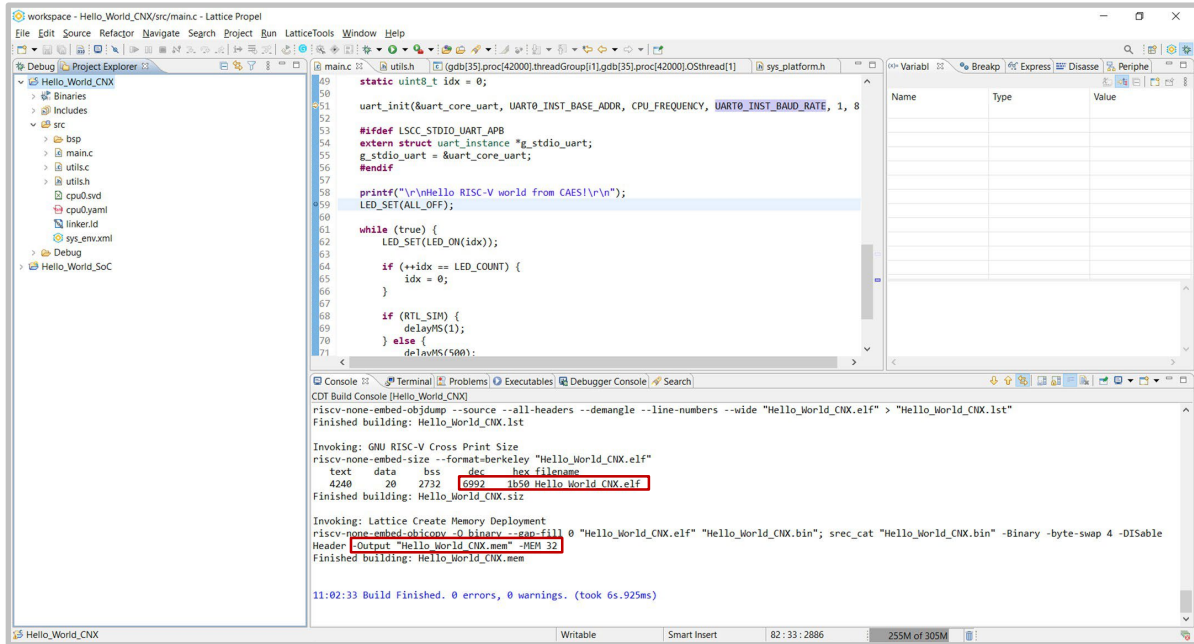

Figure 13: Building the Software Project
- To build the “Hello World” project, right click on **Hello_World_CNX** and select **Build Project**. The compiler builds the project and generates the necessary output files, see **Figure 13**.